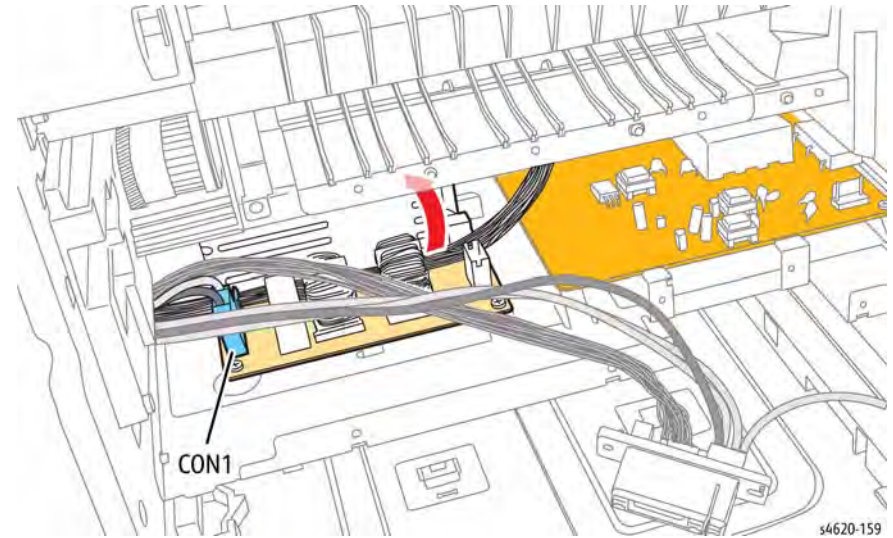

Figure 7 Slide the power supply tray out of the chassis
18. Disconnect CON1 from the SMPS and raise the harness over the SMPS heat sink to release the power supply tray from the chassis, Figure 7.